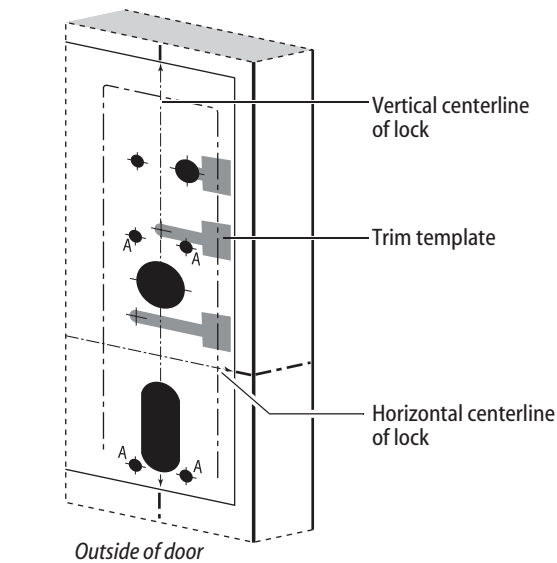

Figure 8 Positioning the trim template, Q08 LHRB shown
- b Align the horizontal and vertical centerlines marked on the template with the centerlines marked on the **OUTSIDE** of the door (from step 1). See Figure 8.